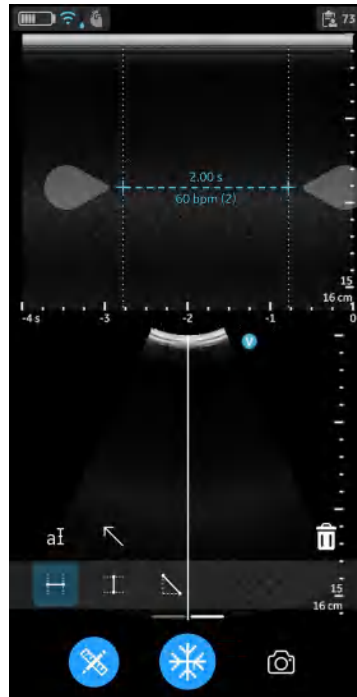

Figure 5-37. Time interval - M-mode
4. The system displays the time measurement and the corresponding calculated heart rate. The number of beats used for the heart rate calculation is listed with the calculated heart rate. Example 60 bpm (2) refer the Figure 5-37